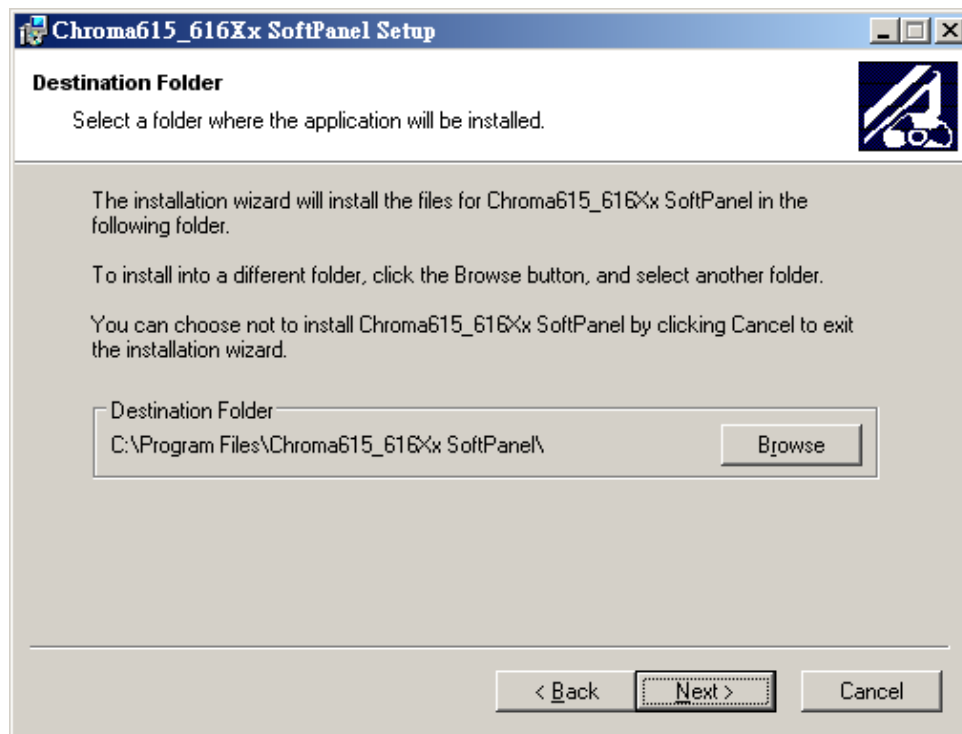

Figure 2-3 Chroma 615_616XX Soft Panel Installation Path Setup
Click **Next >**, the screen prompts Figure 2-3 to let users setup the installation path.
- The program is default installed in C:\Program Files directory as Figure 2-3 shows. To change it, click **Browse** and specify the path for installation.